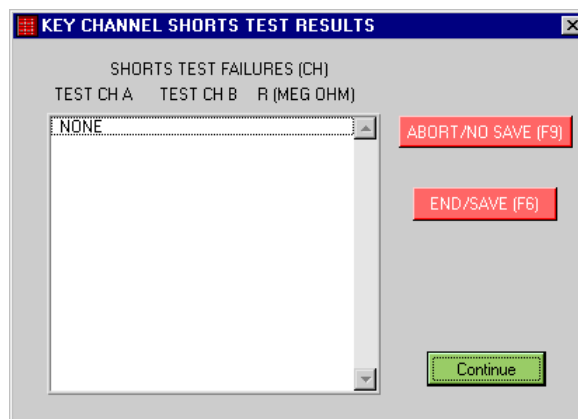

Figure 5
2. **Display Shorts Test Results on Pass (Default):** If shorts test passes and this preference is enabled, the **KEY CHANNEL SHORTS TEST RESULTS** screen will be displayed. The operator will be required to continue (Figure 5). If disabled and shorts test passes screen will not be observed and no operator action required. This screen will always be displayed if shorts test fails.